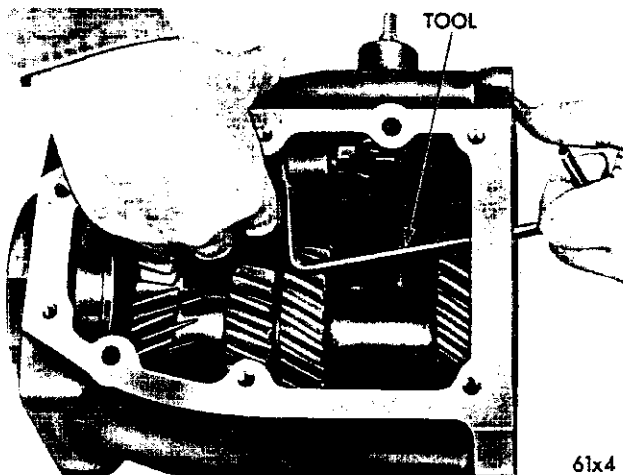

Fig. 8—Installing the Detent Balls (Using Tool C-3765)
(1) Install two new lever shaft seals in the transmission case, using seal driver Tool C-3650.
(2) Install the 2nd and 3rd speed lever shaft in the bore provided in the transmission case.
(3) Install the 2nd and 3rd speed lever shaft lock pin in the hole in the case boss, after coating with a suitable sealer) starting the pin at the top of the hole and driving it downward. While the lever shaft lock pins must be driven in firmly to prevent leakage or loss of the pin, some caution must be exercised to avoid driving the pin in too lightly, causing distortion or mushrooming of the pin. This could result in much difficulty if it is necessary to remove the pin at a later date.
(4) Place the interlock parts in position in the case in the following order: ball, sleeve, spring, pin and ball.
(5) While using the detent ball installer Tool C-3765, as shown in Figure 8, to depress the detent ball against the spring tension, push the low and reverse lever shaft firmly into position so it engages the detent ball.
(6) Remove the detent ball installing tool.
(7) Install the low and reverse lever shaft lock pin in the case, driving it down firmly from the top using the caution as stated above.
(8) Place the low and reverse fork in the lever shaft, with the offset toward rear of transmission (Fig. 8).